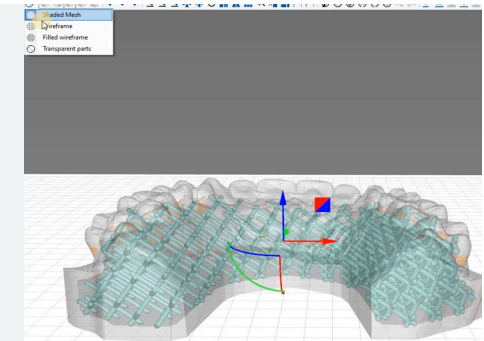

Figure 24
- Click 'Display Mode' and select 'Shaded Mesh' to return to solid view (figure 24).